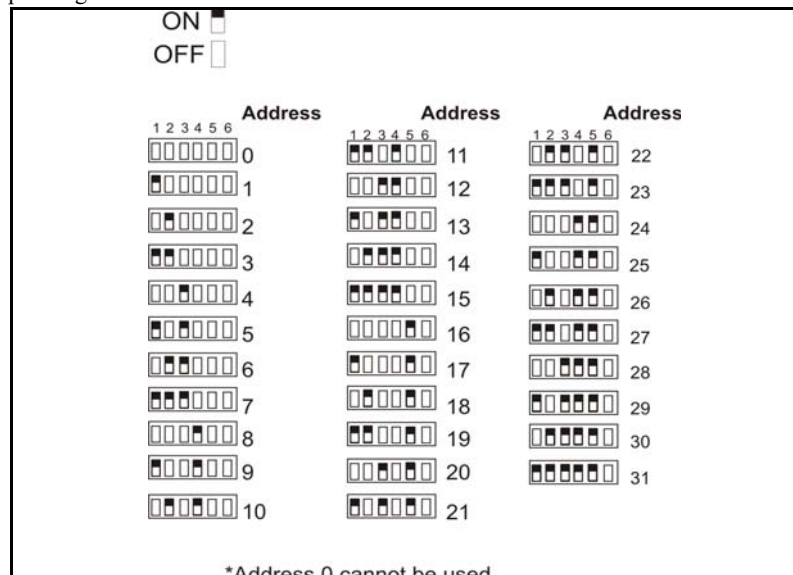

Figure 3.4 Possible Module Addresses
2. Use the onboard dipswitch to assign an ID number to the FIK-5496. (See Section Figure 3.4 on page 12).
All SBUS modules in the System must have a unique number (1-31) to identify them to the FACP. Use the DIP switch on the FIK-5496 board to set the module ID number. Figure 2-1 on page 2 shows the location of the dipswitch on the board. Figure 3.4 on page 12 shows dip-switch setting and the corresponding module ID numbers.